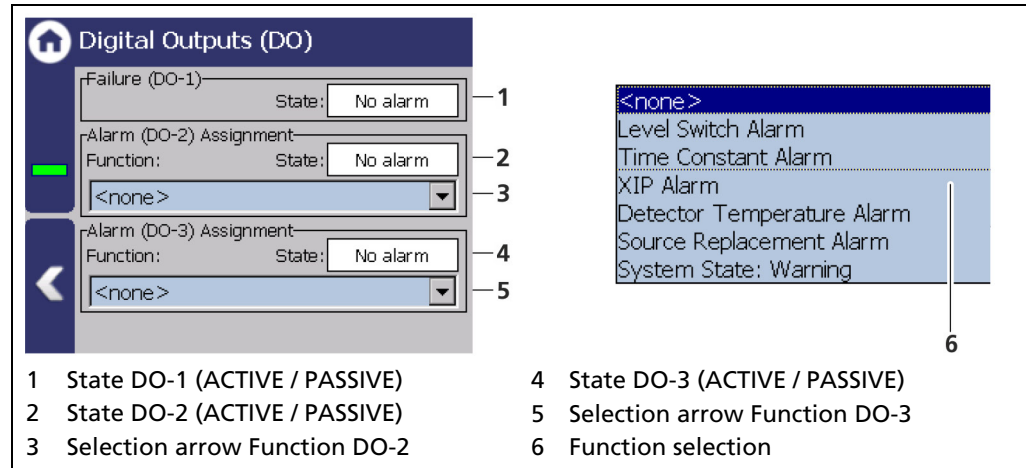

Fig. 91 Digital Outputs
3. Enter the indicated value on the current measuring instrument in the input box (Fig. 91, item 4).
5. Enter the indicated value on the current measuring instrument in the input box (Fig. 91, item 5).